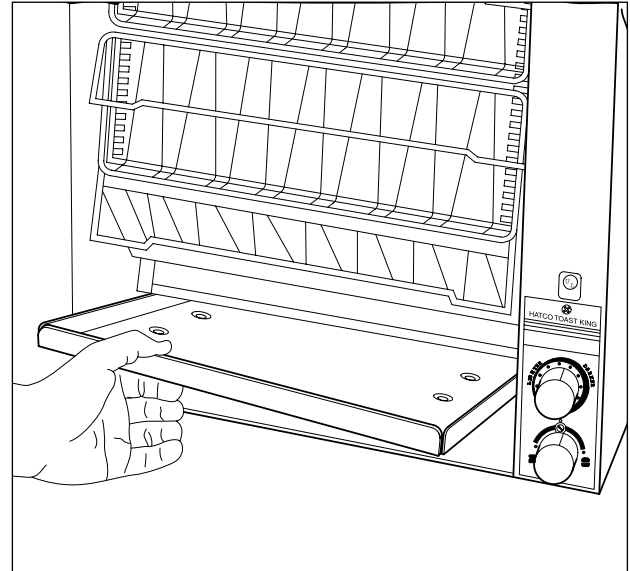

Figure 6. Install Toast Collector Pan
4. Install toast collector pan to unit. See Figure 6.